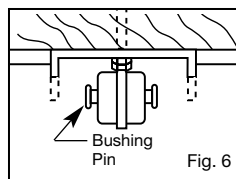

Fig. 6
- C.** Be sure the pin is centered in the rubber bushing. See Figures 6 and 7.